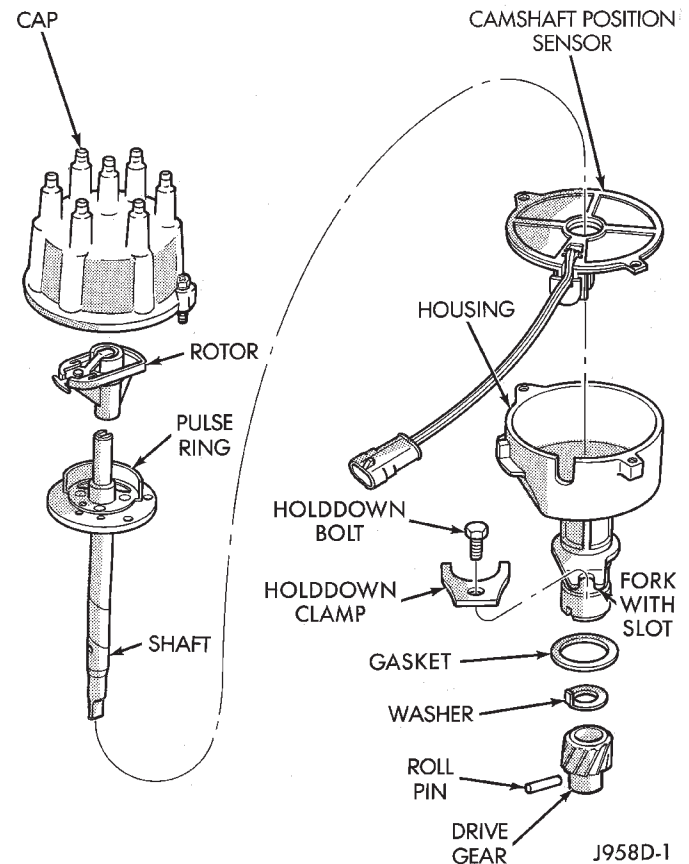
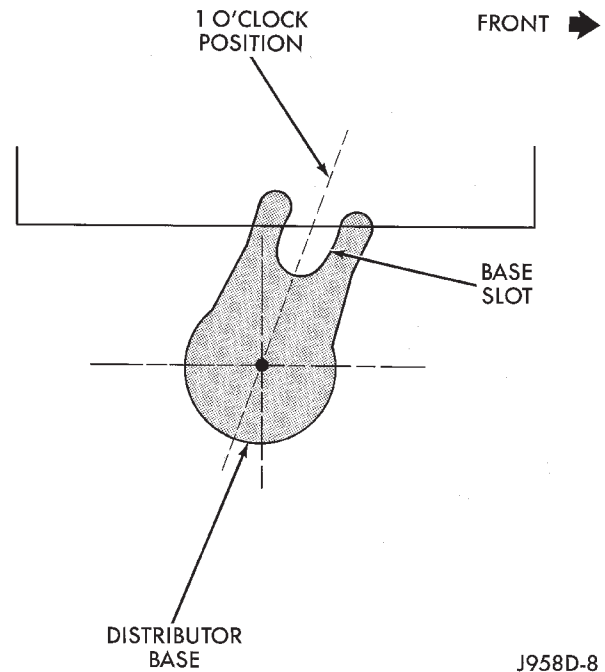
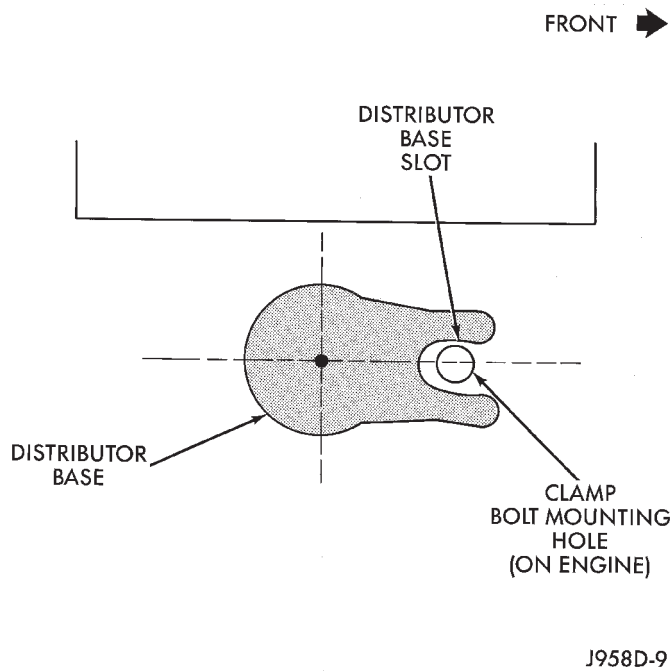
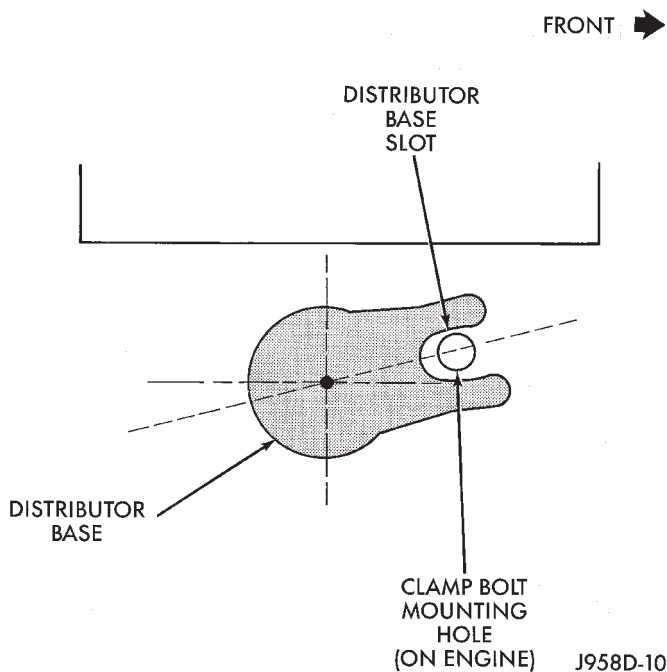

Fig. 8 Distributor—2.5L Or 4.0L Engines—Typical
Fig. 13 Distributor Pre-position—All Engines
Fig. 14 Distributor Engaged Position—2.5L 4-Cylinder Engine
Fig. 15 Distributor Engaged Position—4.0L 6-Cylinder Engine
The camshaft position sensor is located in the distributor on all engines (Fig. 8). For removal/installation procedures, refer to Camshaft Position Sensor. Distributor removal is not necessary for sensor removal.
Refer to figure 8 for an exploded view of the distributor.
A fork with a slot is supplied on the bottom of the distributor housing where the housing base seats against the engine block (Fig. 8). The centerline of the slot aligns with the distributor holddown bolt hole in the engine block. Because of the fork, the distributor cannot be rotated. Distributor rotation is not necessary as all ignition timing requirements are handled by the powertrain control module (PCM).
(7) Remove the distributor holddown bolt and clamp (Fig. 8).
(8) Remove the distributor from engine by slowly lifting straight up.
(9) Remove and discard the old distributor-to-engine block gasket (Fig. 8).
(8) Clean the distributor mounting hole area of the engine block.
(9) Install a new distributor-to-engine block gasket (Fig. 8).
(10) Install the rotor to the distributor shaft.
(11) **2.5L 4-Cylinder Engine:** Pre-position the distributor into the engine while holding the centerline of the base slot in the 1 o'clock position (Fig. 13). Continue to engage the distributor into the engine. The rotor and distributor will rotate clockwise during installation. This is due to the helical cut gears on the distributor and camshaft. When the distributor is fully seated to the engine block, the centerline of the base slot should be aligned to the clamp bolt mounting hole on the engine (Fig. 14). The rotor should also be pointed slightly past (clockwise of) the 3 o'clock position.
4.0L 6-Cylinder Engine: Pre-position the distributor into the engine while holding the centerline of the base slot in the 1 o'clock position (Fig. 13). Continue to engage the distributor into the engine. The rotor and distributor will rotate clockwise during installation. This is due to the helical cut gears on the distributor and camshaft. When the distributor is fully seated to the engine block, the centerline of the base slot should be aligned to the clamp bolt mounting hole on the engine (Fig. 15). The rotor should also be pointed at the 5 o'clock position.